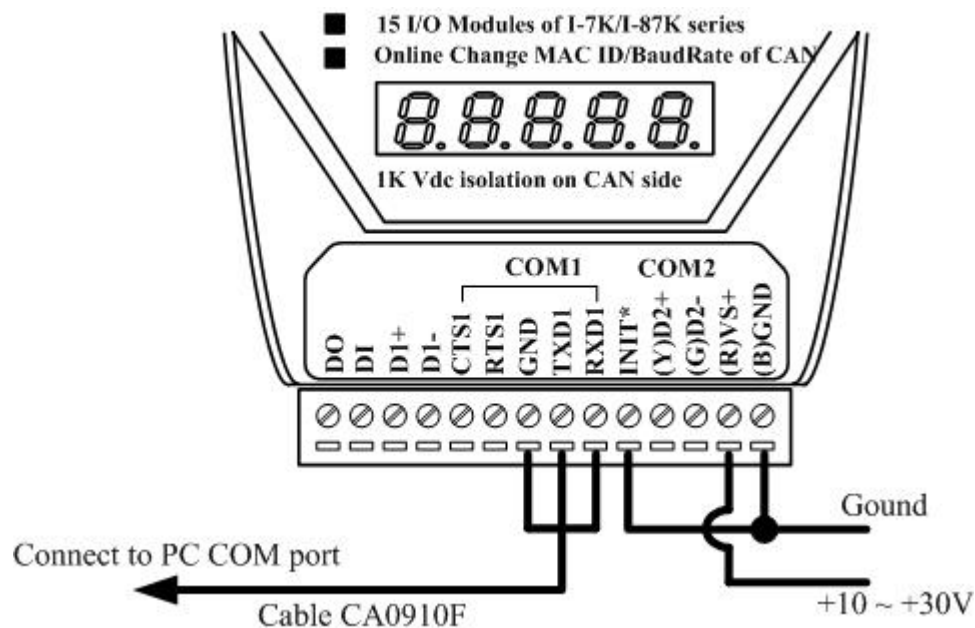

Fig 5-15. The wire connection of the I-7241D
Step 1. Turn off the I-7241D. Connect the INIT* pin with the GND pin of the I-7241D as figure 5-15.